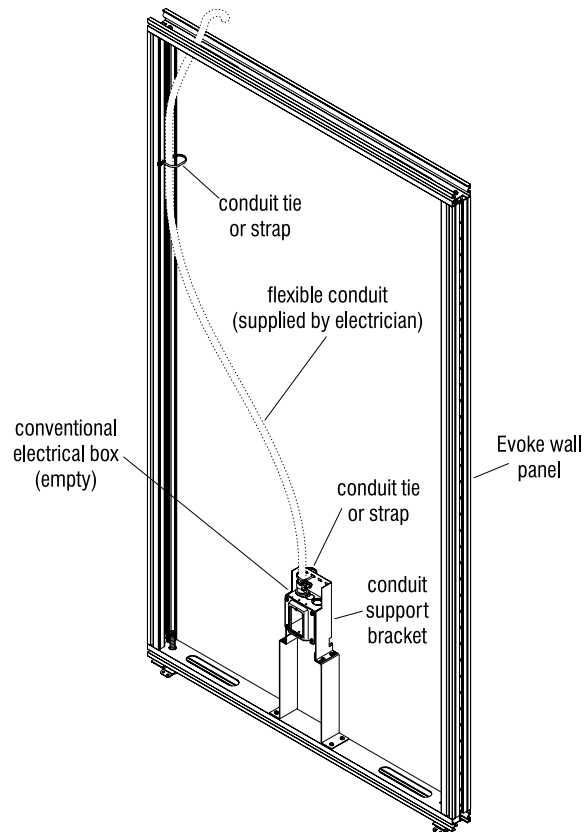

Figure 1
**Overview:** Assembled Evoke Wall panels for WiggleRoom Super Structure requiring hardwired electrical components ship from the factory with a conventional electrical box installed. The conventional box is empty and has no conduit attached to it. An electrician is to provide conduit with wires and a power outlet. The power in-feed side of the conduit and wires are to be pulled up through the top of the panel frame and be routed into an electrician-supplied electrical junction box to be installed on top of the super structure ceiling when so instructed in this manual (Figure 1).